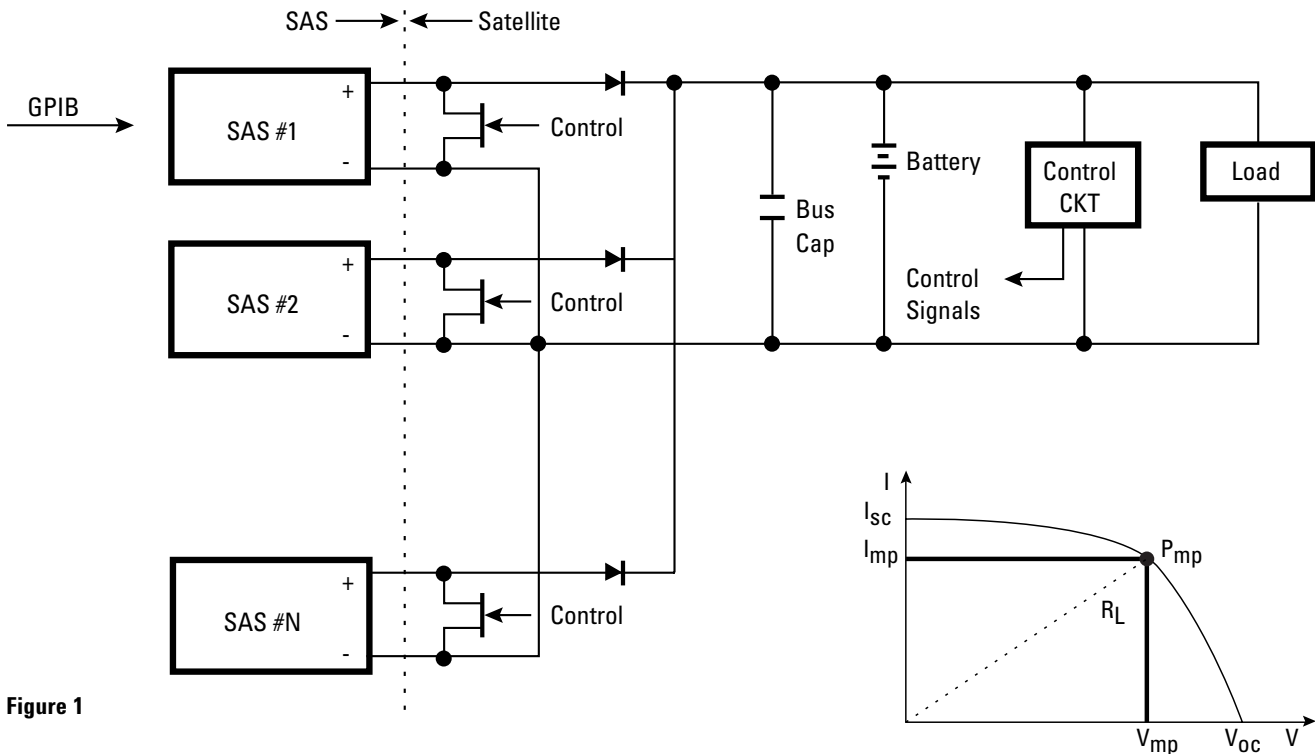

Figure 1
The sequential shunt regulator is widely used for regulating the satellite bus voltage. A simplified sequential shunt concept is shown in Figure 1.
The wire inductance in the test circuit is very small. As the inductance increases, the voltage overshoot on the output voltage will increase, but will be limited by fast acting internal clamp circuits. The overshoot and undershoot in the current (Figure 3) are due to the internal output snubber, as part of the output capacitance, charging and discharging. Note that in Figure 1, the bus capacitor across the battery is required to smooth the bus current and lower the ripple.
Figure 1 shows diodes in series with each output of the SAS (after the shunt). These diodes isolate the supplies so that when one shunt is on, the output of the other SAS's is not pulled low. The diodes should have very fast recovery time, otherwise the power dissipation in the diode and the shunt FET will be high. Higher levels of noise will also occur if slow diodes are used, or if the FET rise and fall times are too fast. The latter can be controlled by adjusting the FET gate resistor. Snubber (RC) across the diodes may help reduce the switching noise and voltage overshoots. A heatsink may be needed to keep the diode cool and within the temperature ratings.